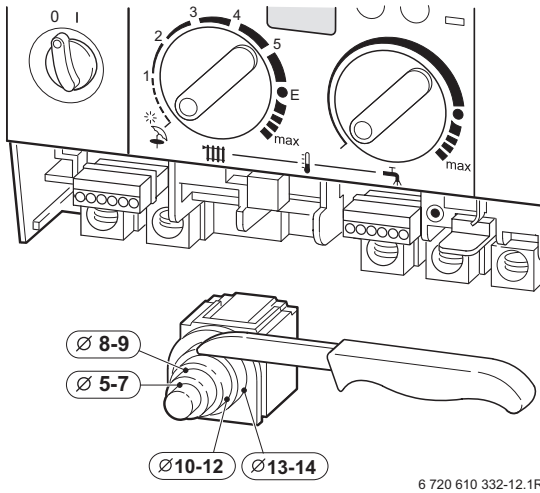

Fig. 26
- To make splash-water proof (IP): cut the cable grommet hole size to match diameter of cable, see fig. 26.